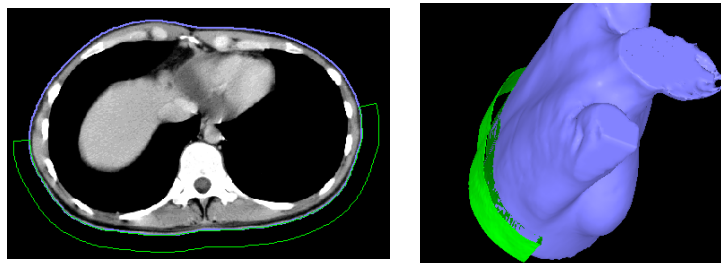

Figure 263 – Generated bolus ROI around the skin surface
5. After the fourth point is defined in the current view, the bolus calculation process starts automatically. The bolus is generated and displayed as contours in the image series and as volume in the 3D view (see Figure 263).